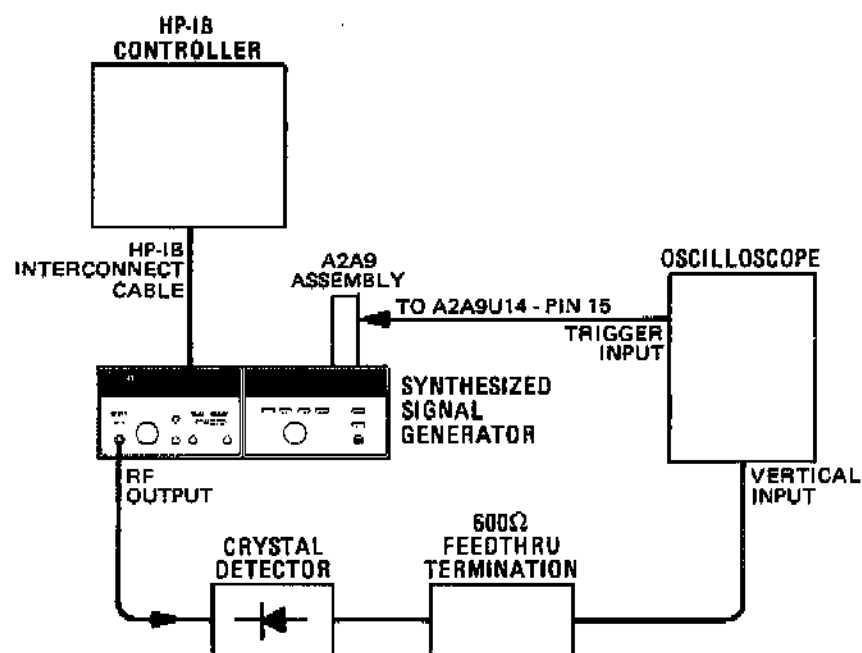

Figure 4-14. Output Level Switching Time Test Setup
8. Connect the rest of the equipment as shown in Figure 4-14.